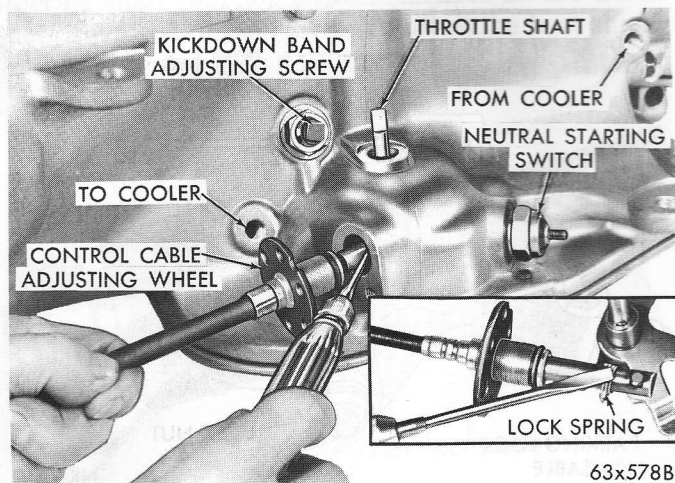

Fig. 19—Removing Gearshift Control Cable
(2) Remove the gearshift control cable to transmission adjusting wheel lock screw. Pull the cable outward just enough to allow the fluid to drain into a container.
(3) Pull the cable out of the transmission case as far as possible, back off the adjusting wheel a few turns if necessary.
(4) Insert a small screw driver above and slightly to the right of the cable (Fig. 19). Disengage the cable adapter lock spring by pushing the screw driver handle to the right while pulling outward on the cable.